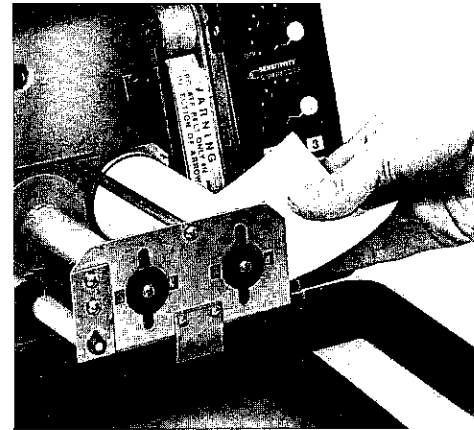

Figure 31
7. Put a fresh roll of paper in position on the centering posts of the paper spool end caps on the supply side (right) of the platen assembly. *The paper must spool off the bottom of the roll.* (See Figure 31.)